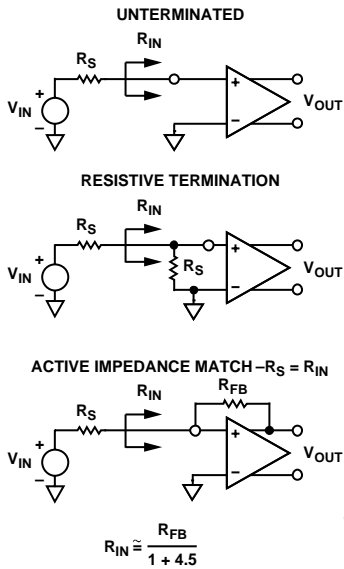
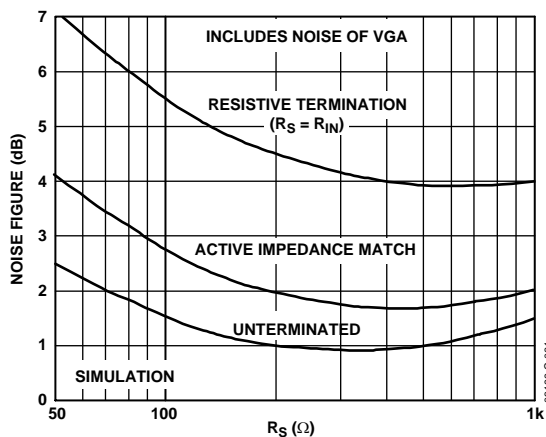
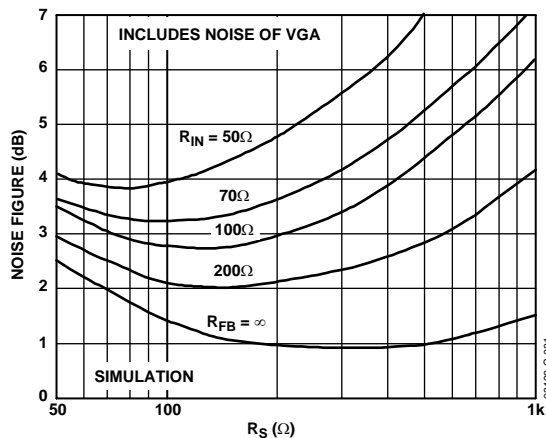

Figure 60. Input Configurations
Figure 61. Noise Figure vs. R_S for Resistive, Active Matched, and Untermated Inputs
Figure 62. Noise Figure vs. R_S for Various Fixed Values of R_{IN} , Actively Matched
The input-referred voltage noise sets an important limit on system performance. The short-circuit input voltage noise of the LNA is 0.74 nV/ $\sqrt{\text{Hz}}$ or 0.82 nV/ $\sqrt{\text{Hz}}$ (at maximum gain), including the VGA noise. The open-circuit current noise is 2.5 pA/ $\sqrt{\text{Hz}}$. These measurements, taken without a feedback resistor, provide the basis for calculating the input noise and noise figure performance of the configurations in Figure 60. Figure 61 and Figure 62 are simulations extracted from these results, and the 4.1 dB NF measurement with the input actively matched to a 50 Ω source. Unterminated ($R_{FB} = \infty$) operation exhibits the lowest equivalent input noise and noise figure. Figure 61 shows the noise figure versus source resistance, rising at low R_S , where the LNA voltage noise is large compared to the source noise, and again at high R_S due to current noise. The VGA's input-referred voltage noise of 2.7 nV/ $\sqrt{\text{Hz}}$ is included in all of the curves.
The primary purpose of input impedance matching is to improve the system transient response. With resistive termination, the input noise increases due to the thermal noise of the matching resistor and the increased contribution of the LNA's input voltage noise generator. With active impedance matching, however, the contributions of both are smaller than they would be for resistive termination by a factor of $1/(1 + LNA\ Gain)$. Figure 61 shows their relative noise figure (NF) performance. In this graph, the input impedance has been swept with R_S to preserve the match at each point. The noise figures for a source impedance of $50\ \Omega$ are 7.1 dB, 4.1 dB, and 2.5 dB, respectively, for the resistive, active, and unterminated configurations. The noise figures for $200\ \Omega$ are 4.6 dB, 2.0 dB, and 1.0 dB, respectively.
Figure 62 is a plot of the NF versus R_S for various values of R_{IN} , which is helpful for design purposes. The plateau in the NF for actively matched inputs mitigates source impedance variations. For comparison purposes, a preamp with a gain of 19 dB and noise spectral density of a $1.0\ nV/\sqrt{Hz}$, combined with a VGA with $3.75\ nV/\sqrt{Hz}$, would yield a noise figure degradation of approximately 1.5 dB (for most input impedances), significantly worse than the AD8332 performance.